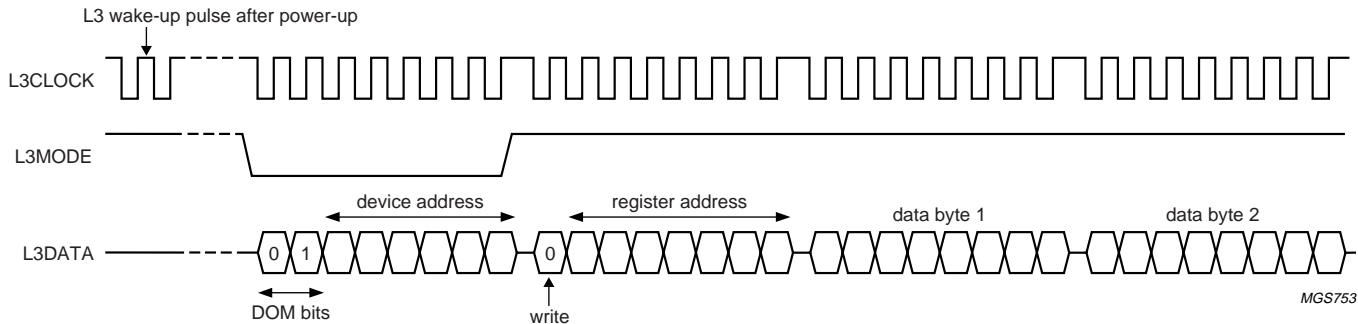

Fig.5 Data write mode (for L3-bus version 2).
The address mode is used to select a device for a subsequent data transfer. The address mode is characterized by L3MODE being LOW and a burst of 8 pulses on L3CLOCK, accompanied by 8 bits (see Fig.5). The data transfer mode is characterized by L3MODE being HIGH and is used to transfer one or more bytes representing a register address, instruction or data.
Remark: when the device is powered-up, at least one L3CLOCK pulse must be given to the L3-bus interface to wake-up the interface before starting sending to the device (see Fig.5). This is only needed once after the device is powered-up.
1. Addressing for write data: bit 0 is logic 0 indicating a write action to the destination register, followed by bits 1 to 7 indicating the register address (see Fig.5)
The data write mode is explained in the signal diagram of Fig.5. For writing data to a device, 4 bytes must be sent (see Table 6):